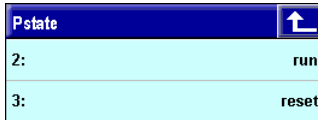

Fig. 78: Selection list "Pstate"
3. **Select "Reset" status:** Select the "reset" status (see Fig. 78).